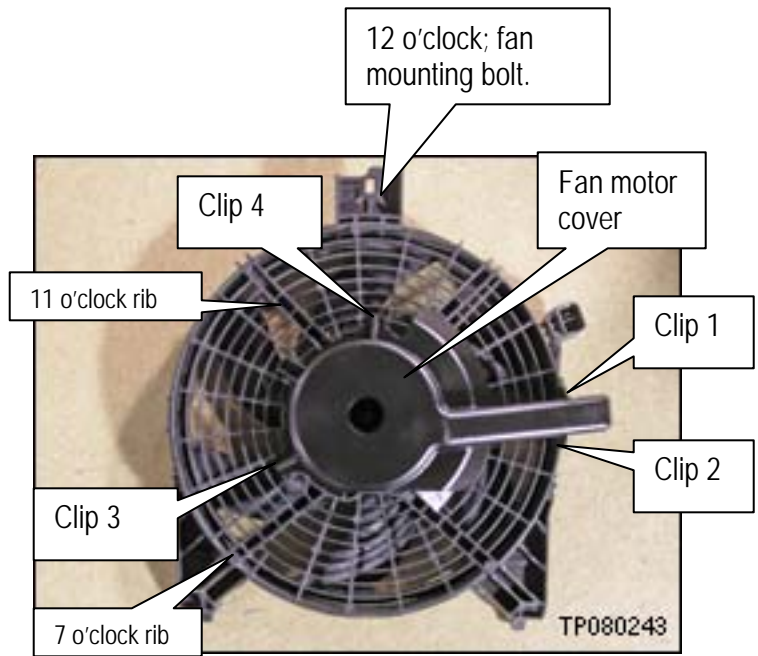

Figure D-18
- Refer to Figures D-18 through D-21 for clip locations.